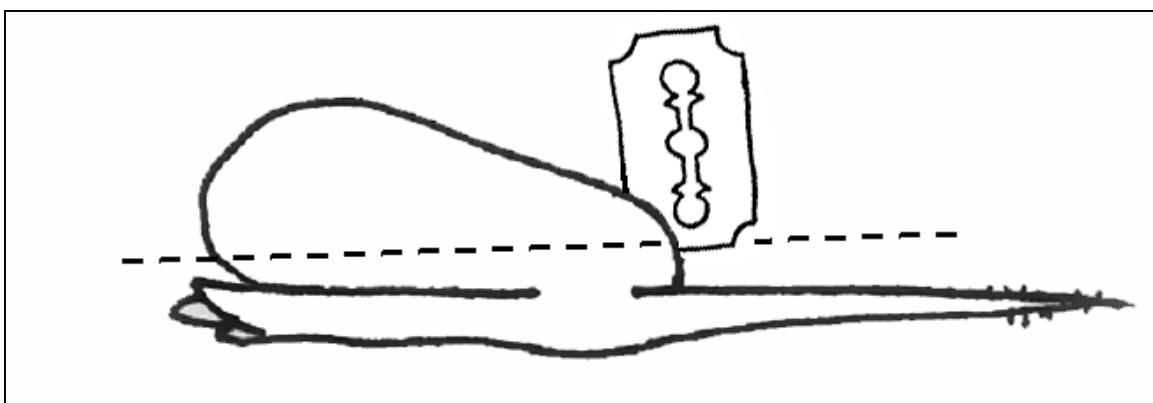

Figure 1: Direction of incision through the seedling during removal of endosperm.
- 3) Cut off the endosperm carefully with the razor blade or scalpel (See Figure 1).